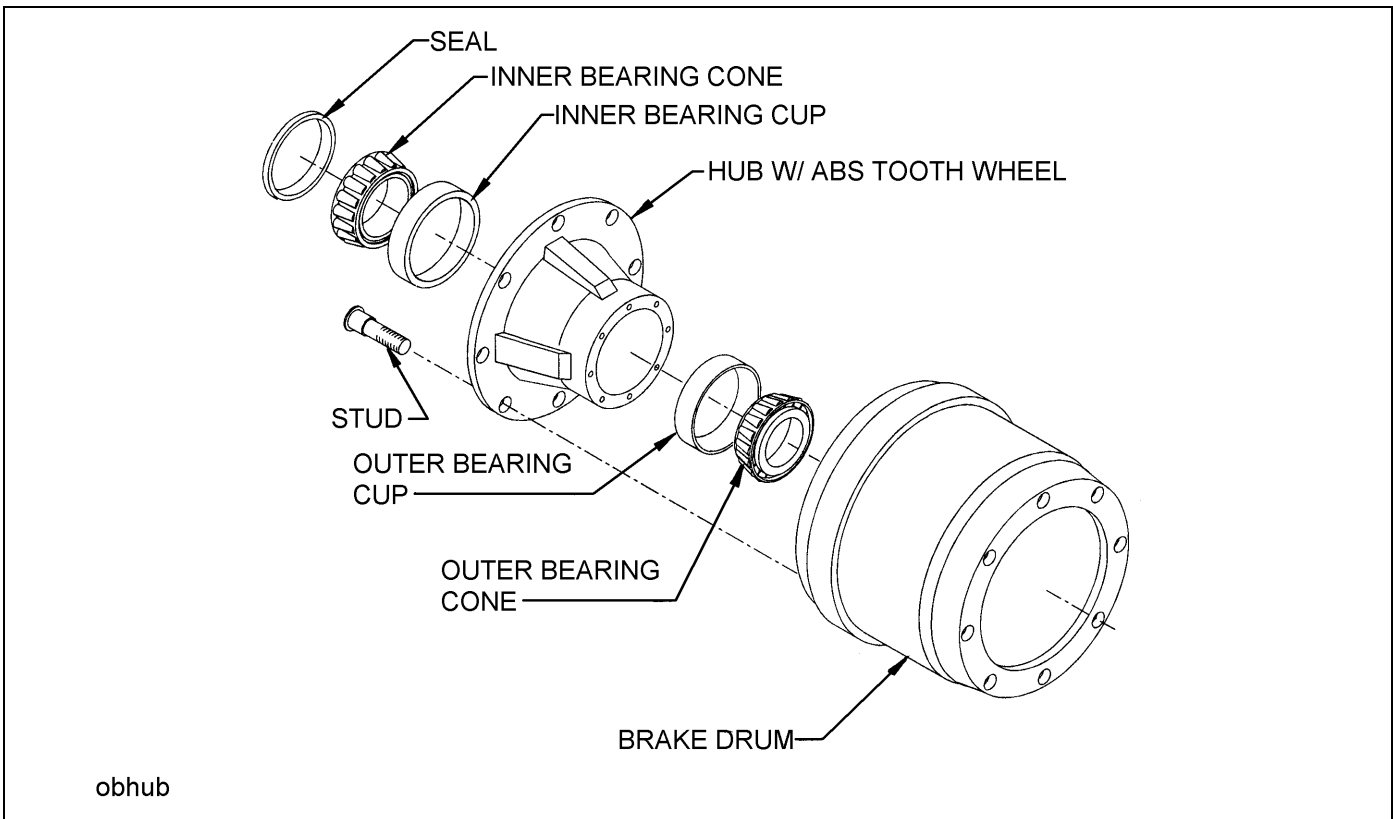

Figure 4-12: Outboard Mount Hub and Drum
4. Replace the hub and drum as follows (**See Figure 4-12**):
- a. Remove the brake drum (**See Figure 4-12.**) It may be necessary to release the slack adjuster.
- i. Place the drum over the hub and brake shoes being careful not to damage the threads on the studs (See Figure 4-12.) Make sure the drum seats flat against the hub flange and mates properly with the hub pilot. There should be no interference between the brake drum pilot chamfer and the corner radius on the hub. If interference exists, the hub will not be able to function properly.
- k. If studs are marked “R” or “L”, right hand (R) hubs should be installed on the curbside of the vehicle, left hand (L) hubs should be installed on the driver side.